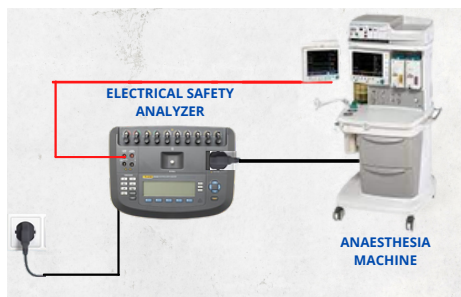

Figure 5: Connection Between Medical Equipment and Safety Analyzer
1. Connect the DUT to Safety Analyzer as indicated in the Figure 5